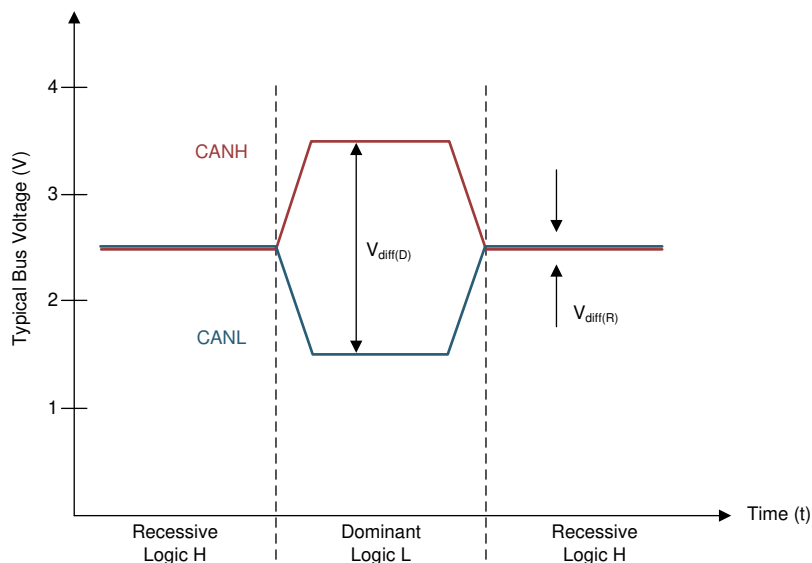
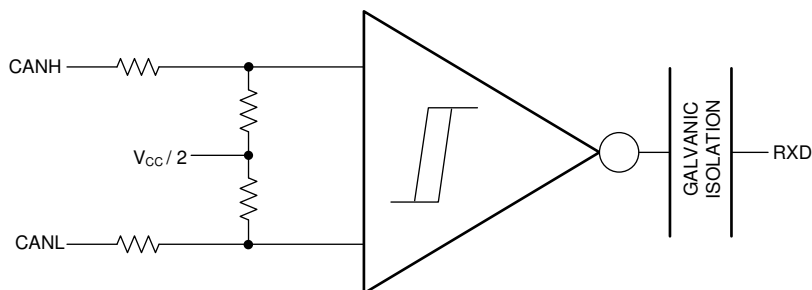

图 25. Bus States (Physical Bit Representation)
图 26. Simplified Recessive Common Mode Bias and Receiver
The CAN bus has two states during operation: *dominant* and *recessive*. A dominant bus state, equivalent to logic low, is when the bus is driven differentially by a driver. A recessive bus state is when the bus is biased to a common mode of  $V_{CC} / 2$  through the high-resistance internal input resistors of the receiver, equivalent to a logic high. The host microprocessor of the CAN node uses the TXD pin to drive the bus and receives data from the bus on the RXD pin. See Figure 25 and Figure 26.
- (1) H = high level, L = low level, Z = common mode (recessive) bias to  $V_{CC} / 2$ . See 图 25 and 图 26 for bus state and common mode bias information.